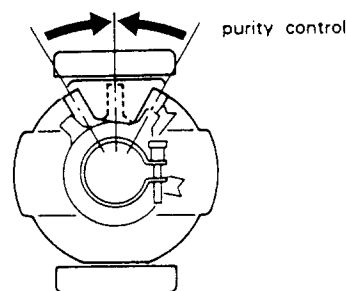

Fig. 3-1
2. Adjust the white balance, convergence and focus coarsely, and then set purity controls to centre position as shown in Fig. 3-1.